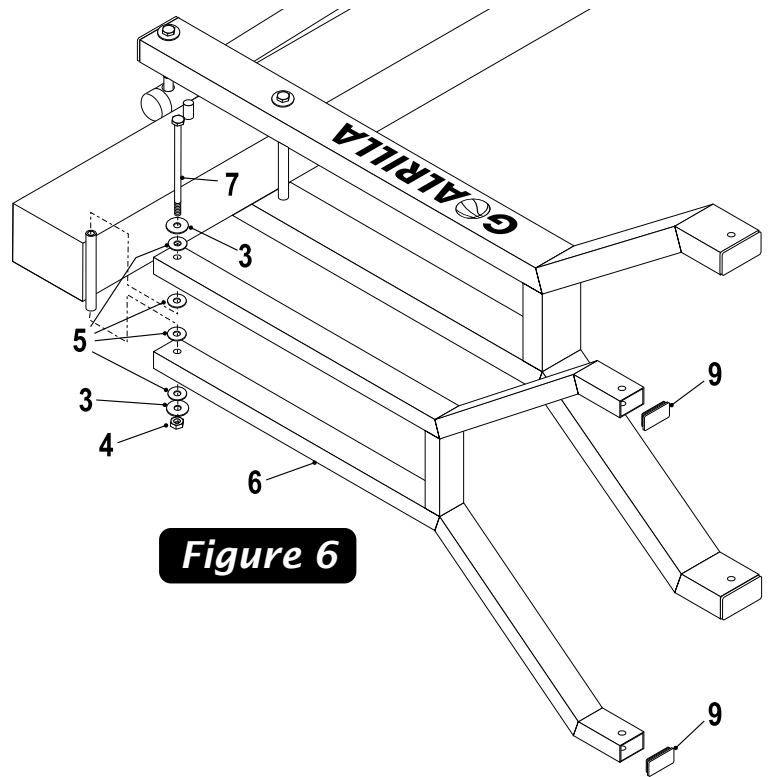

Figure 6
7. Attach Upper Arm (#6) to Pole (#2), as shown in Figure 6, using a bolt (#7), two flatwashers (#3), four plastic washers (#5) and hex nut (#4). Tighten **bolts snug but, do not over tighten. Board Arms must pivot freely.**